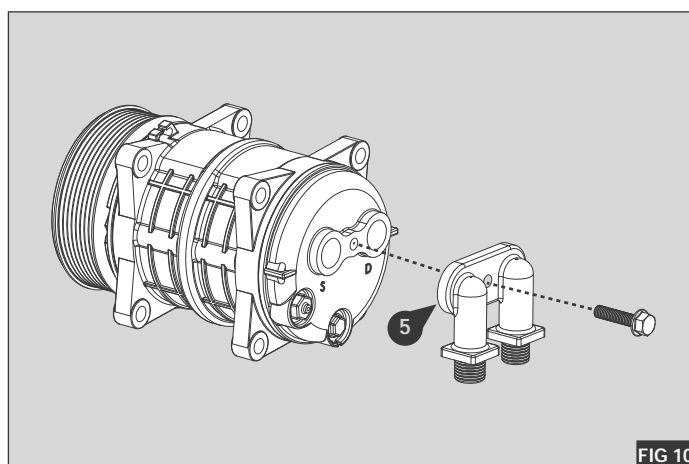

FIG 10
1. Install the compressor mount bracket (1) to the engine block using bolts (3.1) - Fig 10